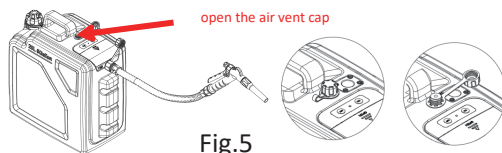

Fig.5
1. Insert the nozzle into a fueling port (not included) and open the air vent cap as shown in Fig.5